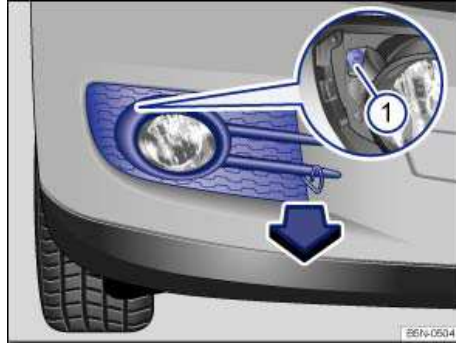

Fig. 206 In right front bumper: Removing light assembly.
⇒ fig. 206 . Pull the cover upward in the direction of the arrow. |
| 11. | Tighten the screw ⇒ fig. 206 (1) with the screwdriver. |
| 12. | Install cover in the bumper ⇒ fig. 206. |